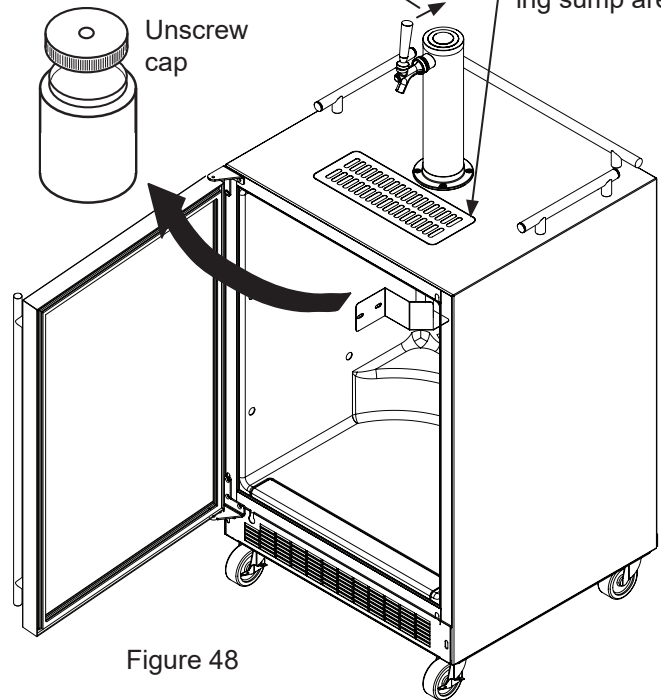

Figure 48
2. Be sure the faucet handle is closed on the tower (see Figure 48).
On a **free standing beverage dispenser** remove the Marvel grate from in front of the tower, clean with soap and water and dry before reinstalling. Clean the sump area with soapy water and dry. (See figure 48).